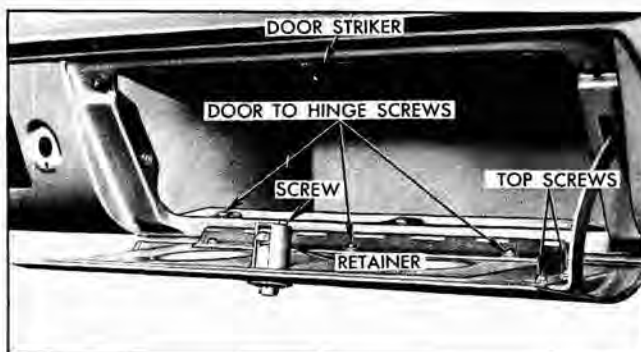

Fig. 12-20 Instrument Panel Compartment Door Assembly
2. Remove hinge stop attaching screws from door inner panel (Fig. 12-20).
3. Remove door hinge attaching screws from door inner panel and remove door (Fig. 12-20).
3. The door lock striker may be adjusted by loosening attaching screws and moving striker forward or rearward (Fig. 12-20).
1. Remove hinge stop attaching screws (Fig. 12-20) and remove from body.